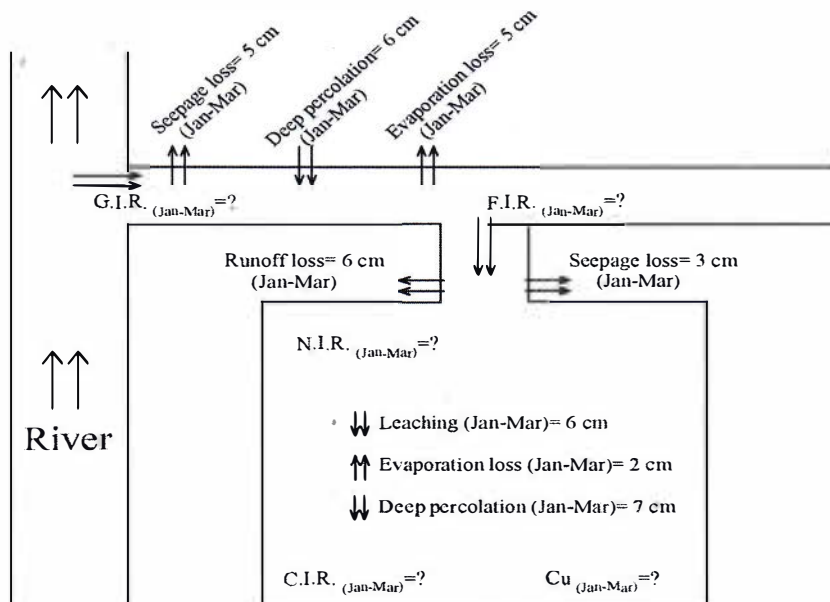

Figure 1
- b) An irrigation project located in Kurigram district of Bangladesh divert surface water from Teesta river through a canal for irrigating an area of 5200 hectares, Based on the data and information provided in the **figure 1** and **table 1** below, calculate the following for the period from January to March: 16